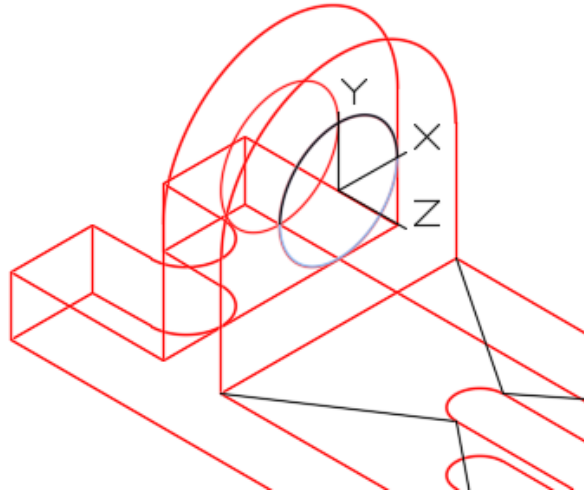

Figure Step 15
Step 15 On layer: Construction, draw a 180 degree arc on the top half of the circle. Ensure that you snap to the quads of the circle. To do that, ensure to locate the UCS on the same plane as the circle. (Figure Step 15)